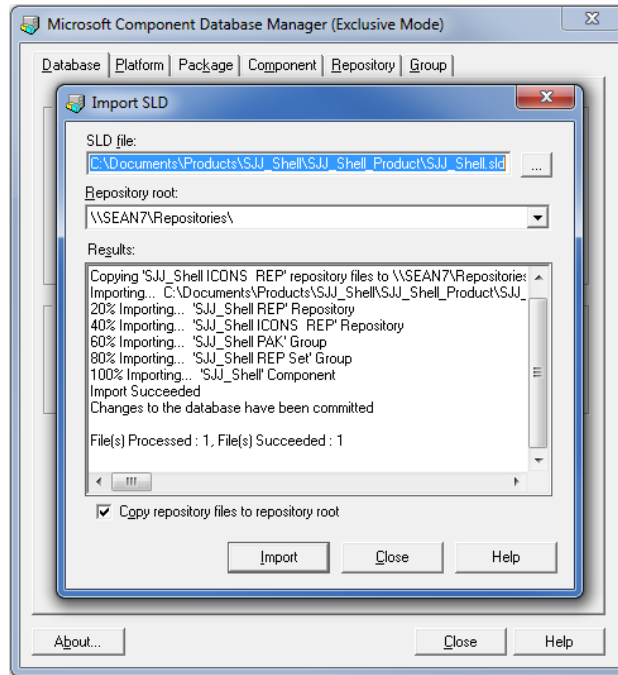

Figure 4-2 Successful Import
6. After the import completes, Figure 4-2, click the Close button.